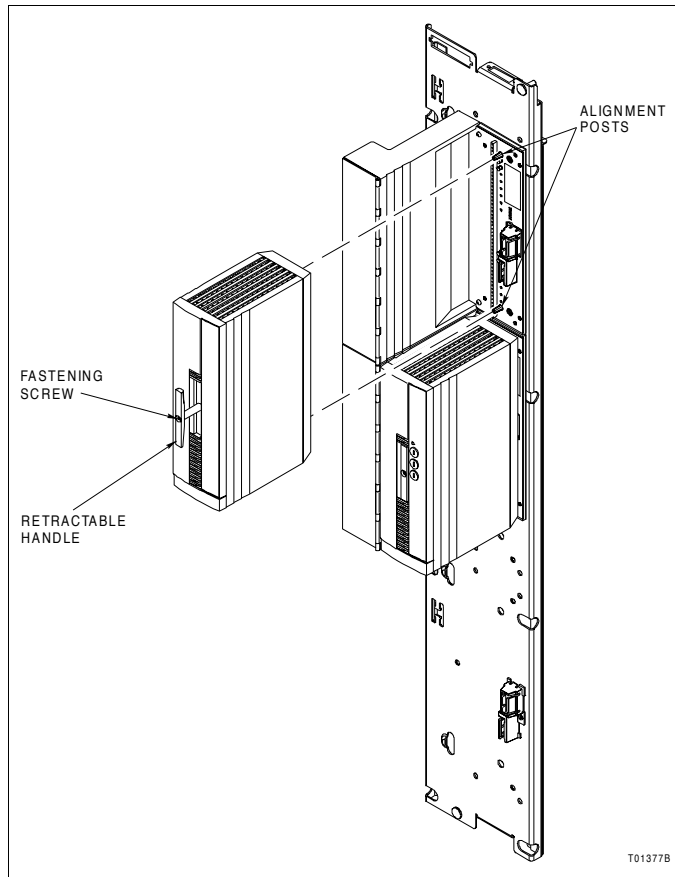

Figure PR5-2. Blank Module Attachment
- a. Grasp the retractable handle when inserting the blank module. Insure the handle is extended completely so that the fastening screw does not stick out from the back of the module (Fig. PR5-2).